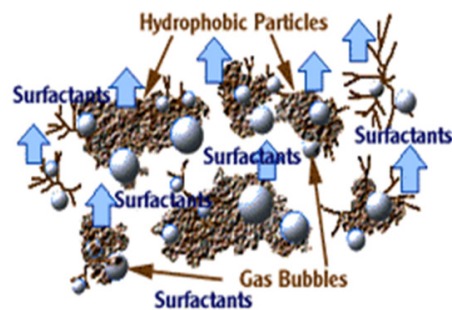

Figure 4: True foam
- Liquid-Solids-Gas (see Figure 4)